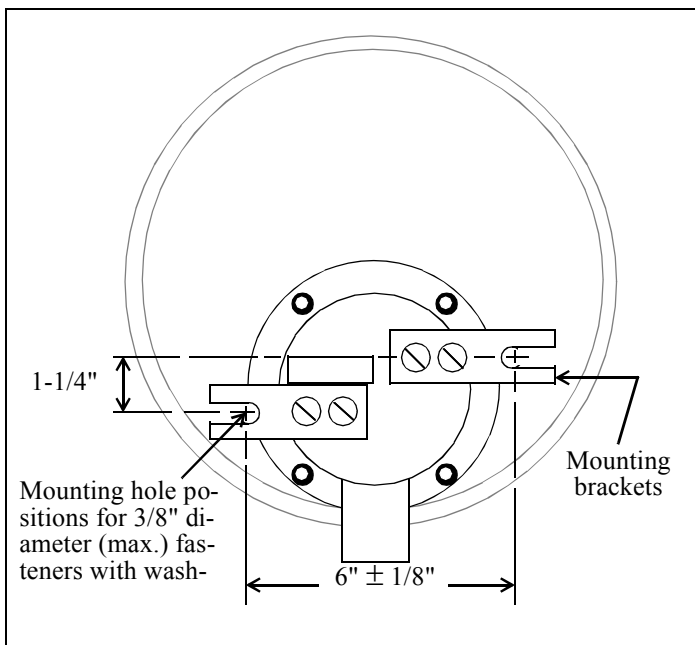

Figure 2. Mounting Dimensions.
2. Place bell against mounting surface and mark mounting hole positions, the dimensions are shown in Figure 2. Install fasteners with washers through mounting brackets and secure bell to surface.